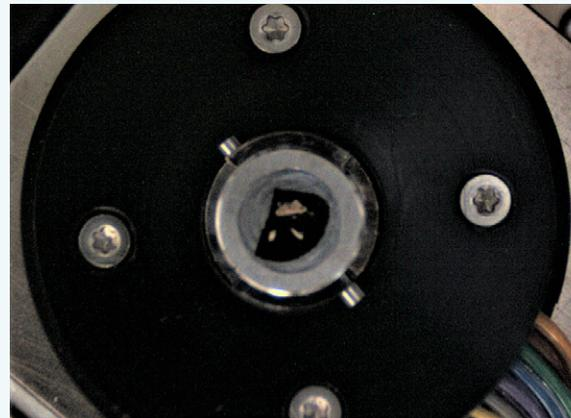

Figure 39. Navigation camera view of the Peltier cooling stage showing the wood fragments at the center of the stage.
A view of the sample's fragments mounted onto the Peltier cooling stage is shown in Figure 39. At the beginning of the experiment, the chamber was pumped down directly to ESEM mode, and the temperature of the stage was kept at 2°C. Two different tile sets (Figure 40) were acquired in ESEM mode. For the entire duration of the Maps Software data acquisition (one tile set was acquired in 15 minutes, while the second was acquired in 11 minutes), the relative humidity (RH) was kept at around 100% (700 Pa) to maintain sample humidity and its starting condition. This allowed the effect of the compression test run before the imaging to be monitored.